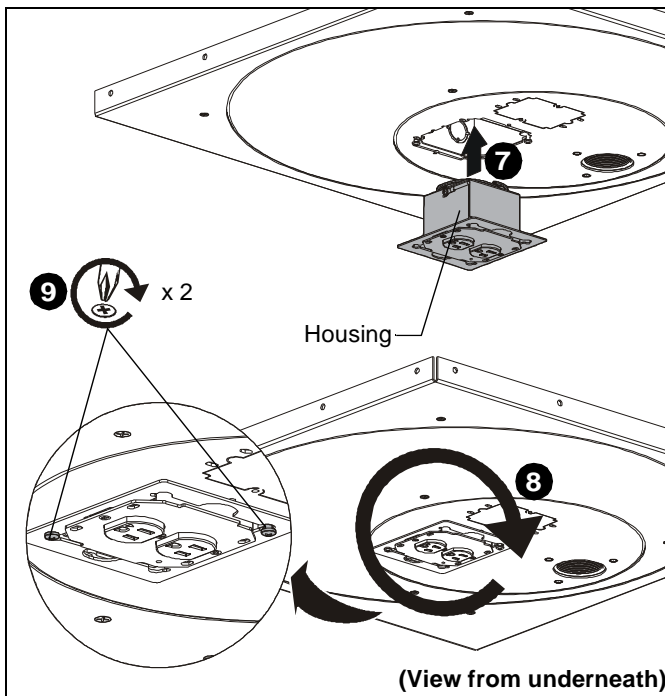

Figure 5
7. Replace the outlet box in the housing. (See Figure 5)
8. Rotate outlet box clockwise until it is in proper position to be secured to the housing. (See Figure 5)
9. Tighten two Phillips screws to secure outlet box to housing. (See Figure 5)